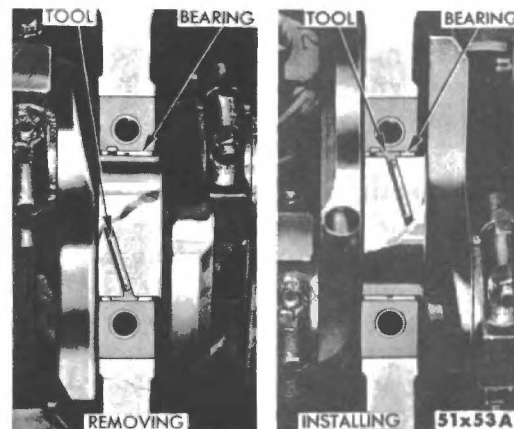

Fig. 31 Removing or Installing Main Bearing
time. Remove the upper half of the bearing by inserting Tool C-3059 (Fig. 31) into the oil hole of the crankshaft.
(1) Start bearing in place, and insert Tool C-3059 into the oil hole of the crankshaft. (Fig. 31).
(2) Slowly rotate the crankshaft counter-clockwise sliding the bearing into position.
(3) After all bearings have been fitted, tighten all caps to 85 lbs/ft. torque. The crankshaft end play should be .002"-.007".